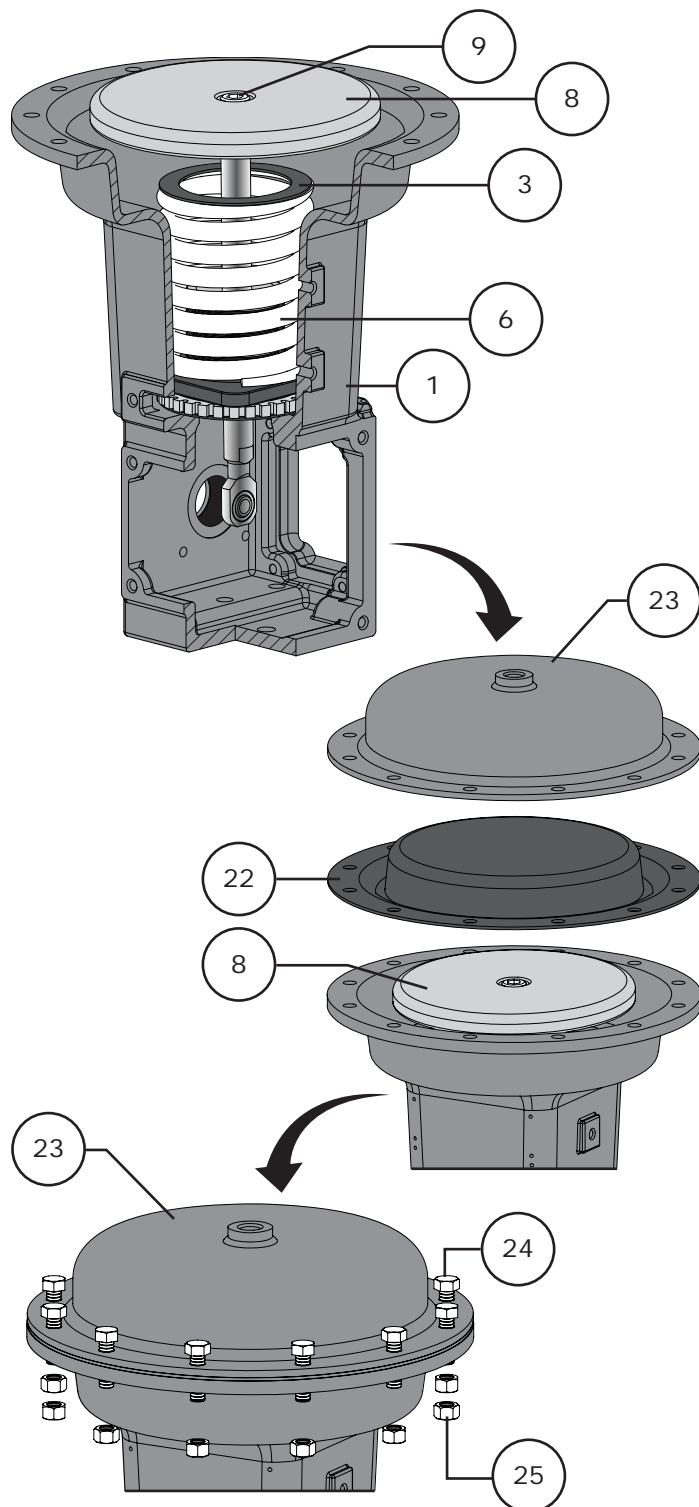
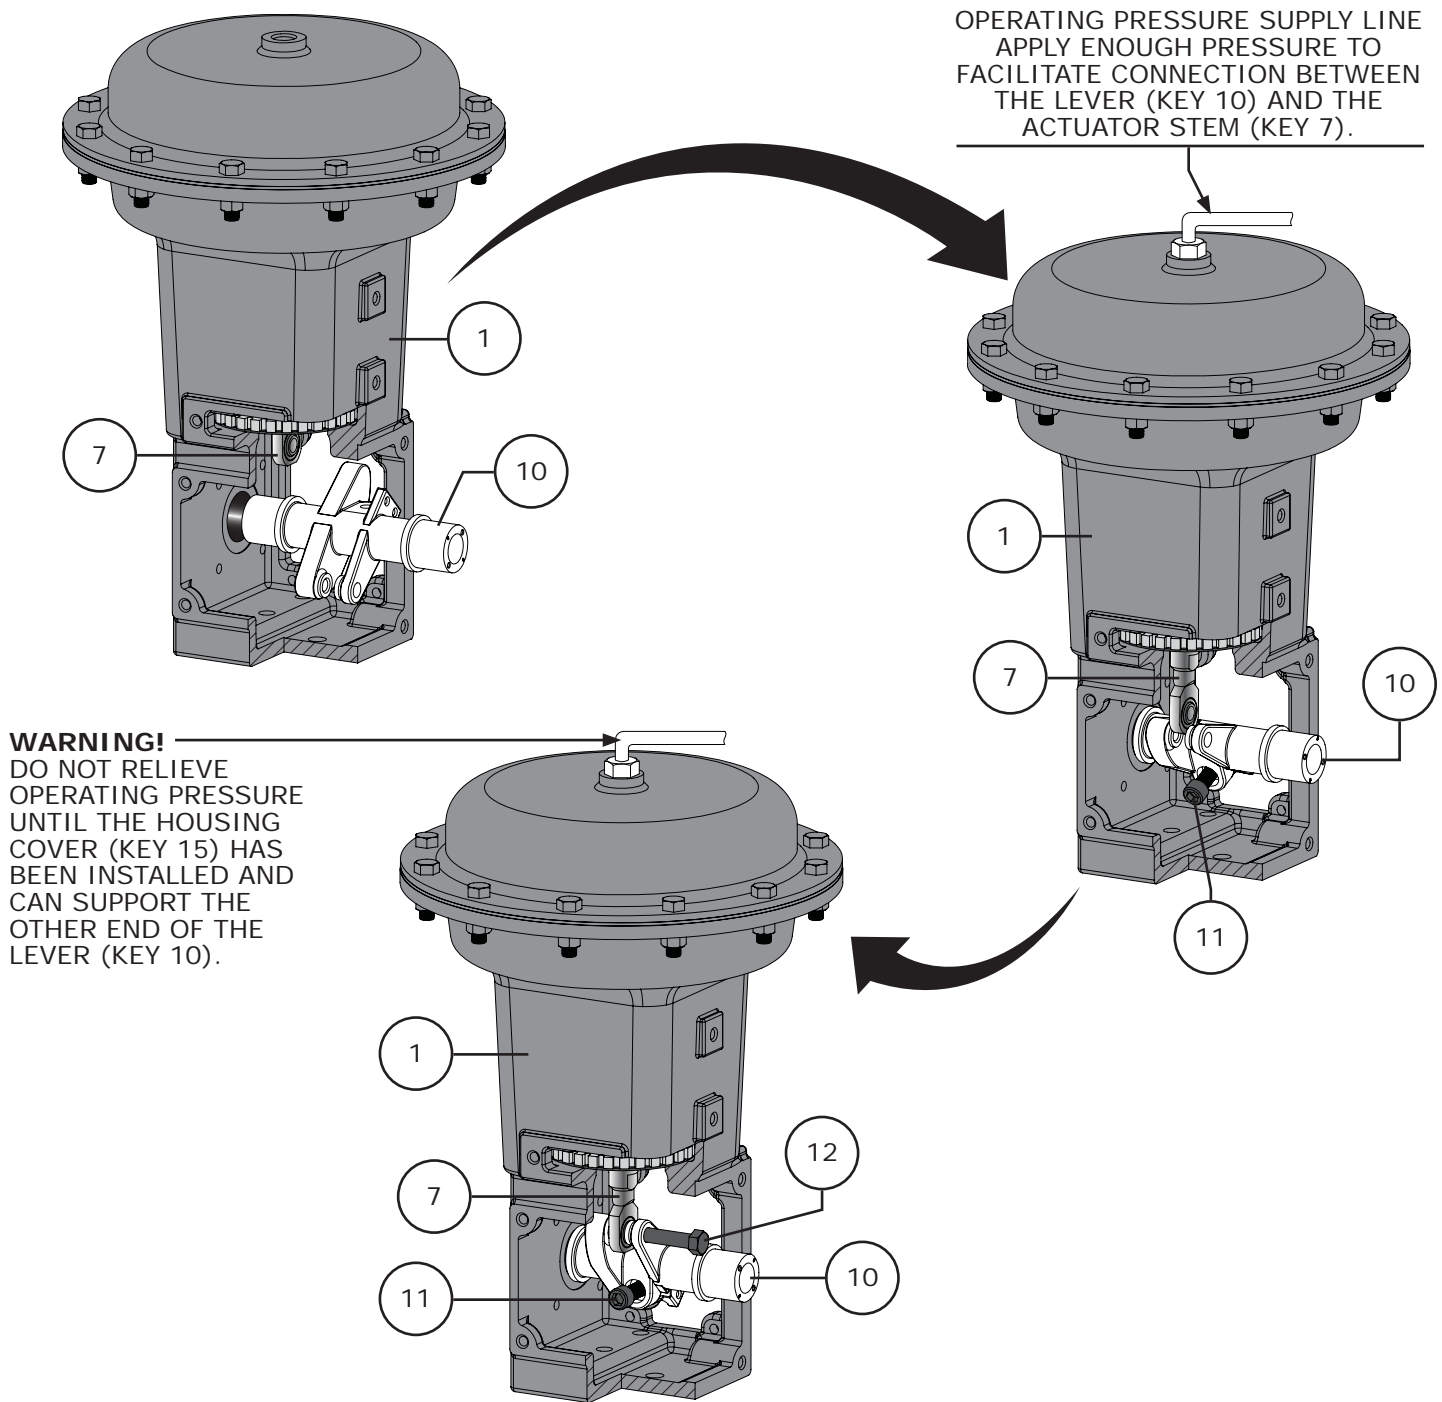

Figure 21 *Diaphragm Plate Installation*
Figure 22 Lever Installation
- 1 Refer to Figure 21 and slide the proper end of the lever (Key 10) into the hole in the actuator housing (Key 1). Refer to Figure 22.
- 2 Rotate and align the lever (Key 10) so that the connection on the lever straddles the bearing of the actuator stem (Key 7). Refer to Figure 22.